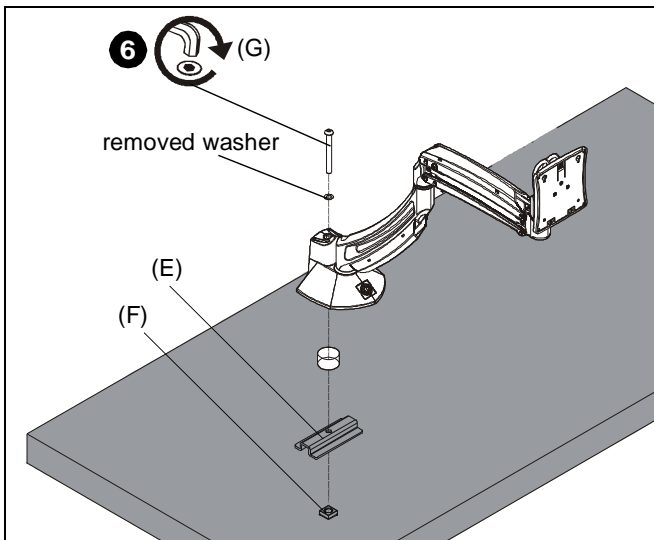

Figure 6
5. Place mount on desk over grommet hole. (See Figure 6)
6. Use 5/16-18 x 6" button head cap screw (G), removed washer, clamp bracket (E) and 5/16-18" square nut (F) to secure mount to desk. (See Figure 6)